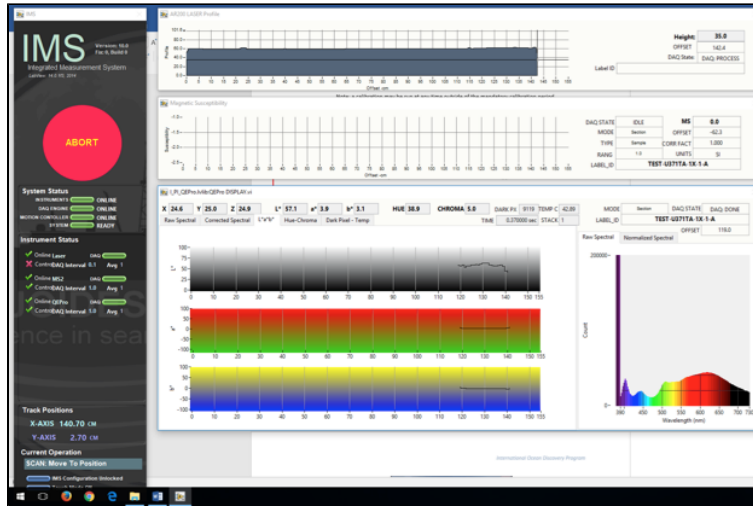

Figure 6. Data Acquisition Screen
- The measurement sequence begins. For efficiency, measurements begin at the bottom of the section and move upcore. Results are displayed during acquisition on instrument graphs on screen as shown in Figure 6, below.